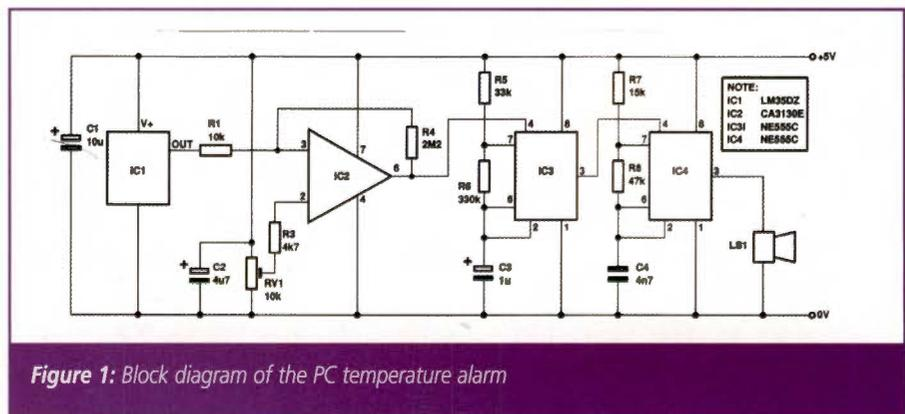

Figure 1: Block diagram of the PC temperature alarm
**Figure 1** shows a block diagram for the PC temperature alarm. The basis of the unit is a semiconductor temperature sensor. All semiconductors are affected by temperature changes, which can cause problems. A semiconductor temperature sensor puts this phenomenon to good use.